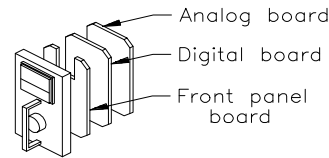

Figure 3
4.3 ELECTRONICS PACKAGE - The electronics package consists of three circuit boards: the front panel board, the digital board and the analog board (see figure 3).